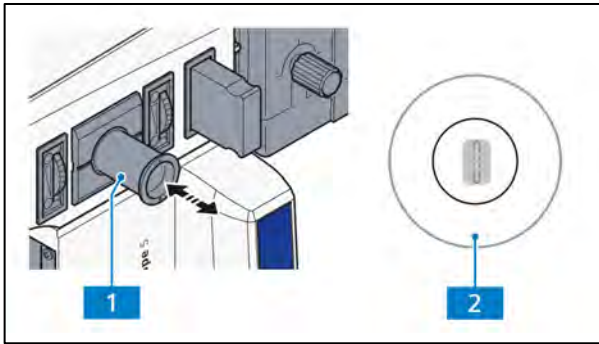
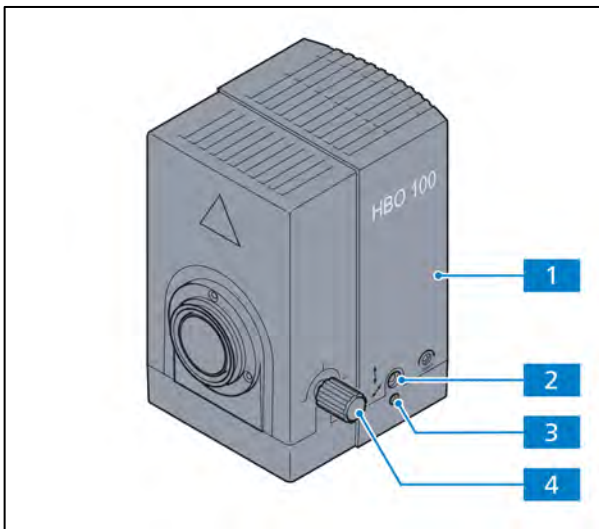

Fig. 3-35 Adjustment tool
Fig. 3-36 Adjusting the HBO 100
- Turn on the HBO 100 illuminator (Fig. 3-36/1) on the power supply unit for the HBO 100 (Fig. 3-63/1) and wait until it reaches its operational temperature.
- Pull the adjustment tool (Fig. 3-35/1) out of the microscope stand. The lighter colored focal point of the lamp HBO 103 W/2 and its slightly darker reflection become visible in the black glass window of the adjustment tool.
- Use the knurled button (Fig. 3-36/4) for collector adjustment to focus the brighter focal point.
- Use the adjustment screws (Fig. 3-36/2 and 3) to focus the darker focal point (reflection) as you would for the focal point image (Fig. 3-35/2) in the inscribed adjustment circle.